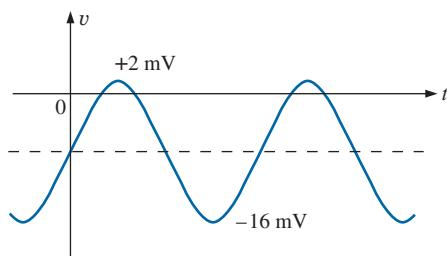

FIG. 13.54
**EXAMPLE 13.17** Determine the average value of the waveform in Fig. 13.54.
**Solution:** The peak-to-peak value of the sinusoidal function is  $16 \text{ mV} + 2 \text{ mV} = 18 \text{ mV}$ . The peak amplitude of the sinusoidal waveform is, therefore,  $18 \text{ mV}/2 = 9 \text{ mV}$ . Counting down 9 mV from 2 mV (or 9 mV up from  $-16 \text{ mV}$ ) results in an average or dc level of  $-7 \text{ mV}$ , as noted by the dashed line in Fig. 13.54.